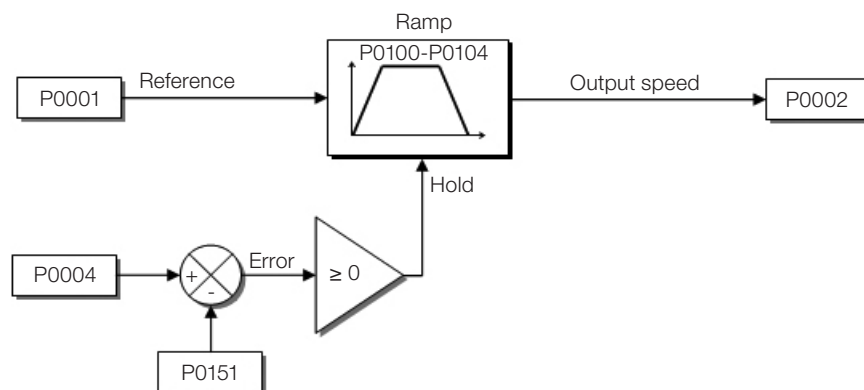
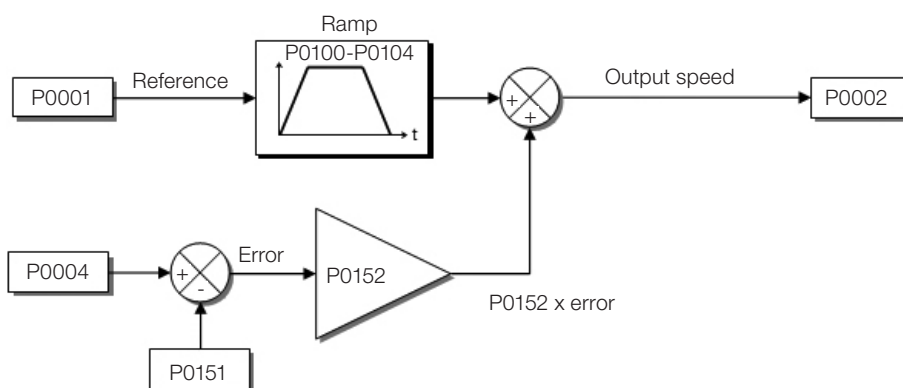
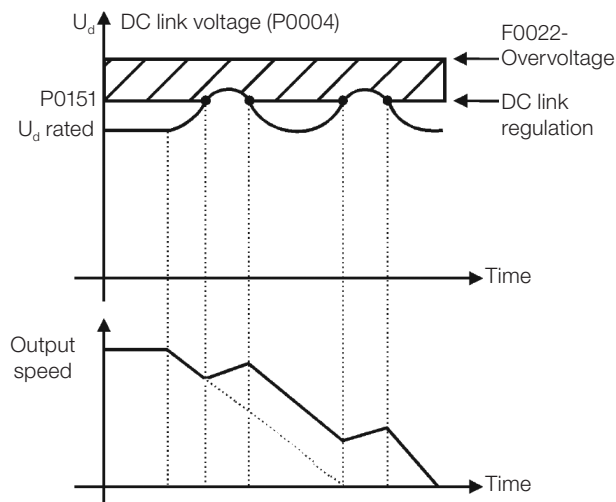

Figure 11.2: Block diagram DC link voltage limitation – Ramp Hold (P0152 = 0 or P0152 = 2)
Figure 11.4: Block diagram of DC link voltage limitation – Accelerate Ramp ($P0152 = 1$ or $P0152 = 3$)
Figure 11.5: Example graph of the DC link voltage limitation – Accelerate Ramp (P0152 = 1 or P0152 = 3)
- Actuation: the DC link voltage is measured (P0004) and compared to the value set in P0151; the difference between those signals (error) is multiplied by the proportional gain (P0152); the result is then added to the ramp output, as per Figure 11.4: Block diagram of DC link voltage limitation – Accelerate Ramp \(P0152 = 1 or P0152 = 3\) on page 11-6 and Figure 11.5: Example graph of the DC link voltage limitation – Accelerate Ramp \(P0152 = 1 or P0152 = 3\) on page 11-7.
Figure 11.2: Block diagram DC link voltage limitation – Ramp Hold (P0152 = 0 or P0152 = 2) on page 11-5 to Figure 11.5: Example graph of the DC link voltage limitation – Accelerate Ramp (P0152 = 1 or P0152 = 3) on page 11-7 show the block diagrams and example graphs.